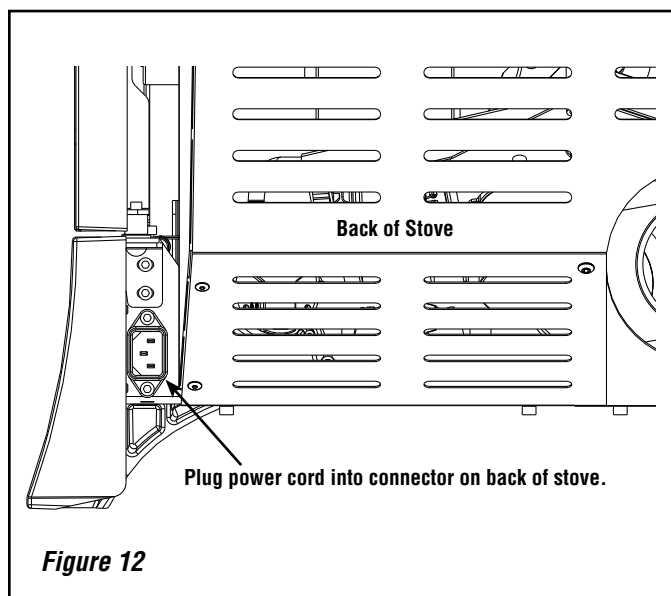

Figure 12
- Plug power cord connector into corresponding connector on the back of appliance (see **Figure 12** showing connector location).